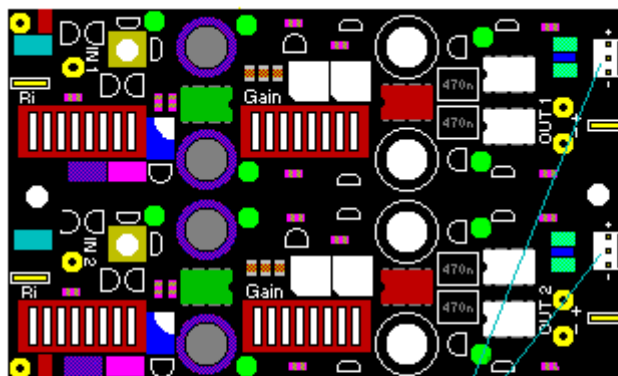

Figure 1.
The power supply must be connected in accordance with fig. 1. (See also POWER SUPPLY).
See CONNECTIONS fig. 1.
Powering with batteries or rechargeable batteries nearly always change the subjective evaluation of the sonic performance compared to powering by the supplied mains adapters. The user must decide for himself, which is preferred as "correct". For reference use, battery power supply is recommended to ensure uniform power conditions from test to test and to eliminate mains leakage into ground circuit. All above-mentioned power requirements are valid for battery powering as well. Rechargeable batteries may be used as well, but a mains powered charging circuit will induce mains leakage into the ground circuit of the hi-fi system. Such charging circuits should be disconnected from the mains when the charging is ended in order to assure all advantages of battery powering. Each CT100 is supplied with two cables terminated with locking connectors intended for connecting CT100 to batteries or other power sources. The three cores are colour coded in accordance with fig. 1. (See CONNECTIONS). See also fig. 8.
8. Connect the power supply. See CONNECTIONS fig. 1 and POWER SUPPLY.